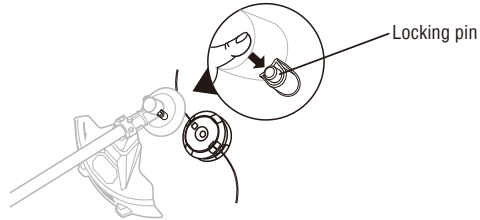

Fig. 9
2. Press the locking pin and turn the cartridge counterclockwise to remove it. (Fig.9)
3. Press the locking pin and turn the trimmer head clockwise to assemble it. (Fig.9)